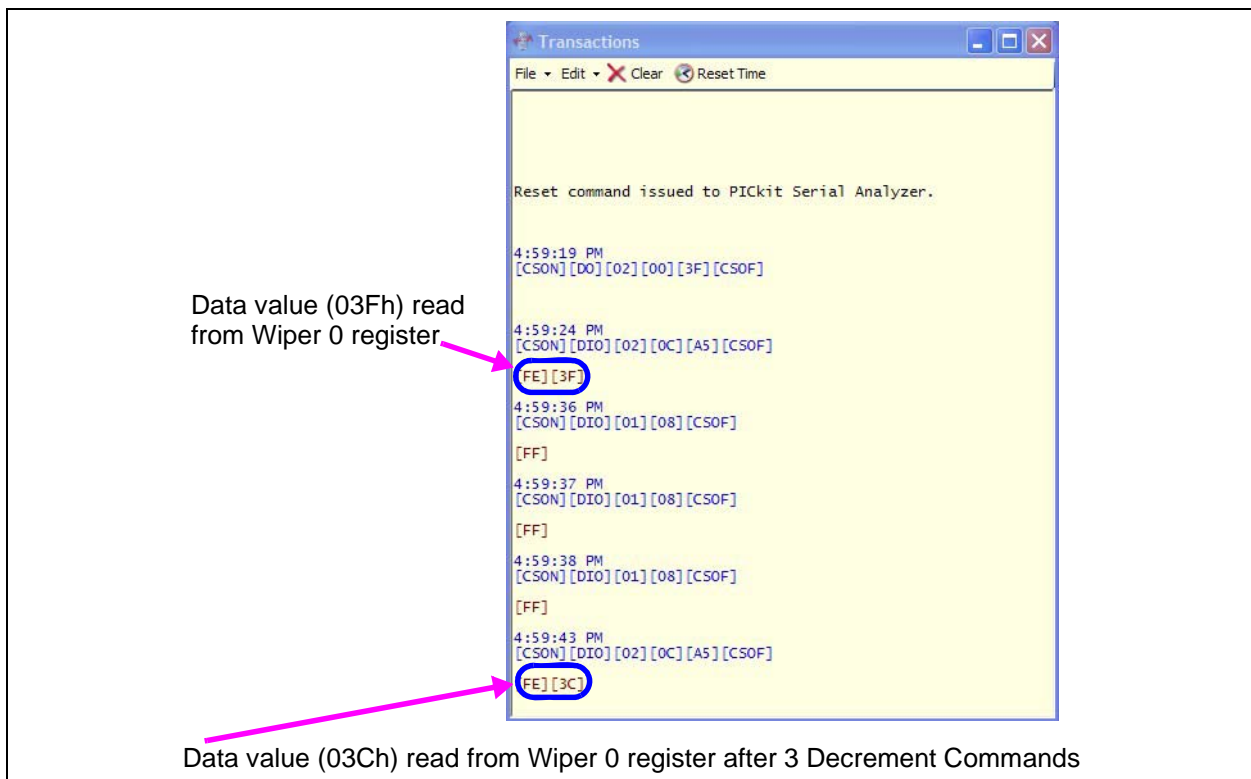

FIGURE 2-16: MCP4361 Transaction Window - Wiper 0 Decrements.
26. Select the "ReadWiper0" script in the User SPI Scripts column and then click on the **Execute Script** button. The Transaction window shows the scripts that were executed and the current value of the Wiper 0 (see Figure 2-16).